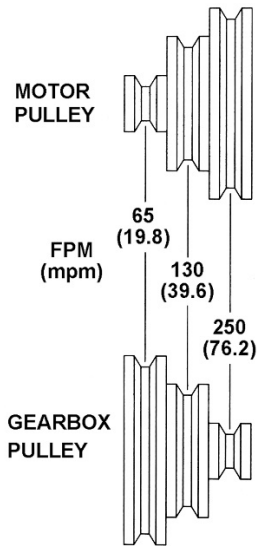

Figure 7-3: blade speeds (rounded off)
- Move belt to desired pulley combination. Refer to chart inside pulley box (reproduced in Figure 7-3).
- Turn handle (D) clockwise to tension belt. Finger pressure on belt midway between pulleys should cause approximately 1/2-inch deflection. Do not overtighten belt.